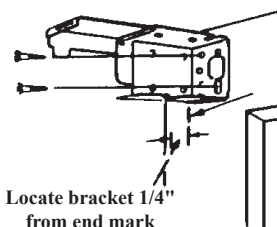
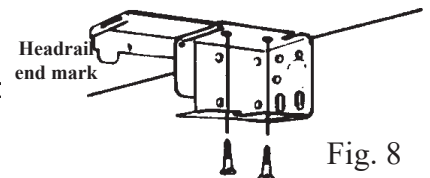

Fig. 7
Fig. 8
- Typical installations for inside mounts are to the jamb (fig. 6) or the soffit (fig. 8) of the window frame. The screws should be diagonally located.
- Typical installations for outside mounts are to the window frame, or wall (fig. 7) or to the ceiling (fig. 8) through the top parallel screw holes.